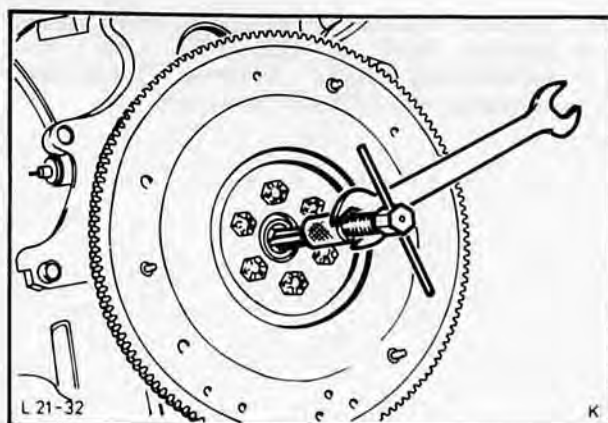

Fig. 83. Remove crankshaft needle bearing, using Special Tool 21-036
19. Remove crankshaft needle roller bearing from crankshaft, using Special Tool 21-036, Fig. 83.